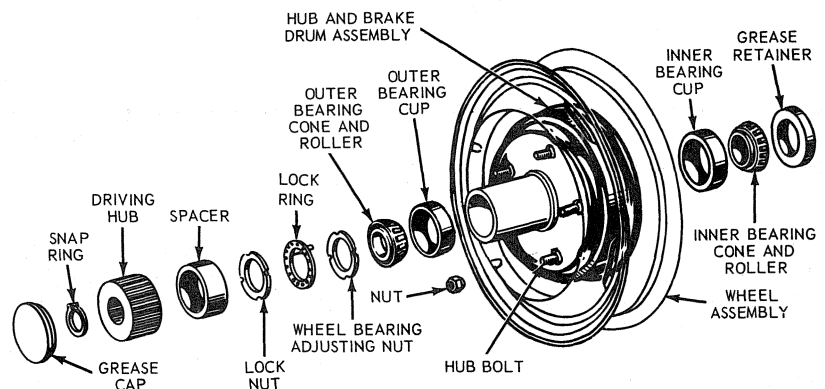

FIG. 2—Front Wheel and Hub Installation
tapered roller bearings are installed in each hub. The entire assembly is retained to the spindle by the adjusting nut, lock ring, and a lock nut (Fig. 2).
3. Remove the front hub grease cap. Remove the driving hub retaining snap ring and slide the splined driving hub from between the axle shaft and the wheel hub (Fig. 2). Remove the driving hub spacer. (If equipped with free-running lock-out hubs, refer to Front Wheel Drive Lock-Out Hubs Removal in Group 4.)
4. With Tool T59T-1197-B and a torque wrench, tighten the bearing adjusting nut (Fig. 2) to 50 ft-lb, while rotating the wheel back and forth to seat the bearings.